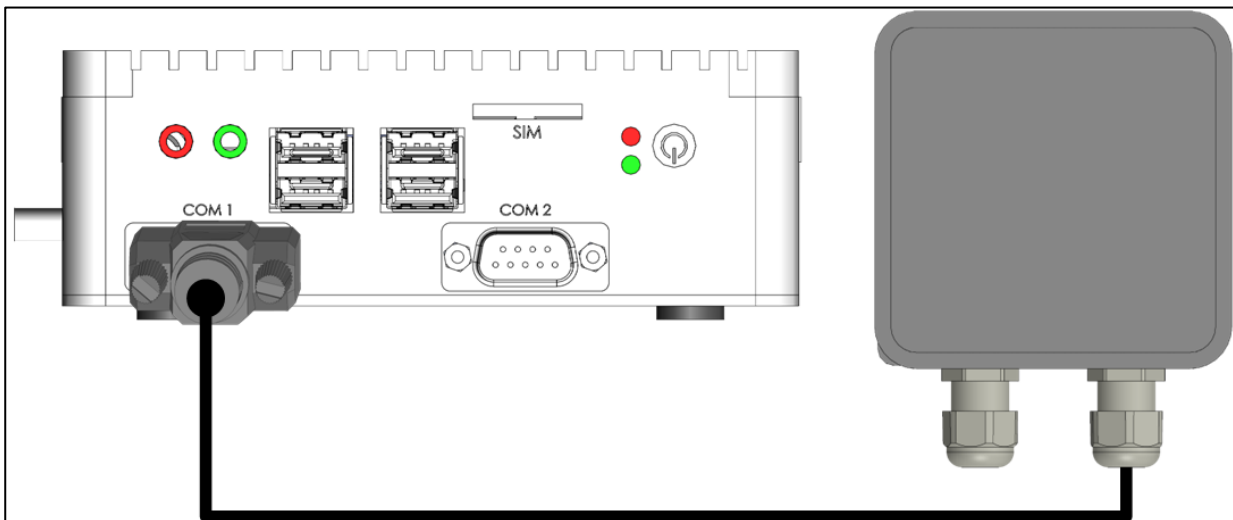

Figure 16: Junction Box to COM Port Cable
- Plug the cable into the COM 1 port (Figure 16).